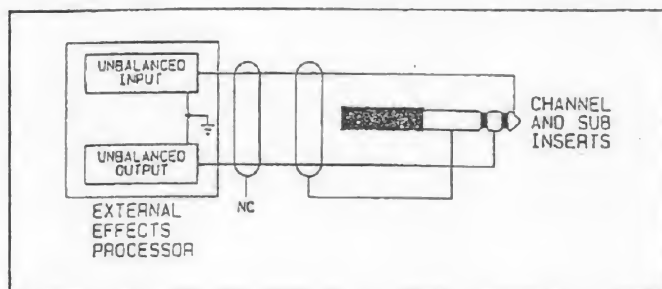

Figure 3: Typical Insert Connection
Signal processing equipment may easily be inserted in the signal path by using the ¼-inch phone (TRS) insert connectors. The external device must have line level unbalanced inputs and outputs. The output signal from the mixing console is on the *Tip* and the input signal is on the *Ring*. The *Sleeve* is ground. Refer to Figure 3 for a typical insert connection.
and the external processing device should have a low output internal impedance (100 ohms or less). Refer to Section 3.3 of this manual and Figure 3 for proper connections.
8. **Input Channel INSERTs:** A space-saving, 3-conductor (stereo) phone jack is used for both output from the input channel and for the return to the input channel from an external processing device. Be sure that the device that is to be patched in has line level unbalanced inputs and outputs. The signal at the insert jack can drive loads of 2000 ohms or greater and the external processing device should have a low output internal impedance (100 ohms or less). Refer to Section 3.3 of this manual and Figure 3 for proper connections.